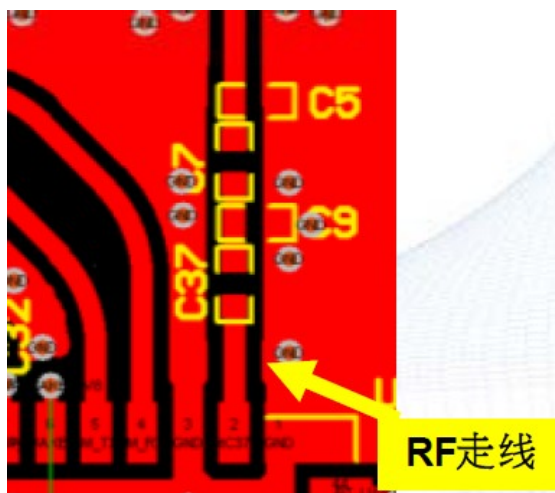

Figure 2-6 Component layout
4. The position of the impedance matching network components needs to be reserved between the feeder and the antenna to correct the impedance characteristic deviation caused by the feeder in actual situations. The matching components should be arranged as close as possible to the RF port at the circuit end, as shown by components such as C5, C7, C9, and C37 in Figure 2-6.